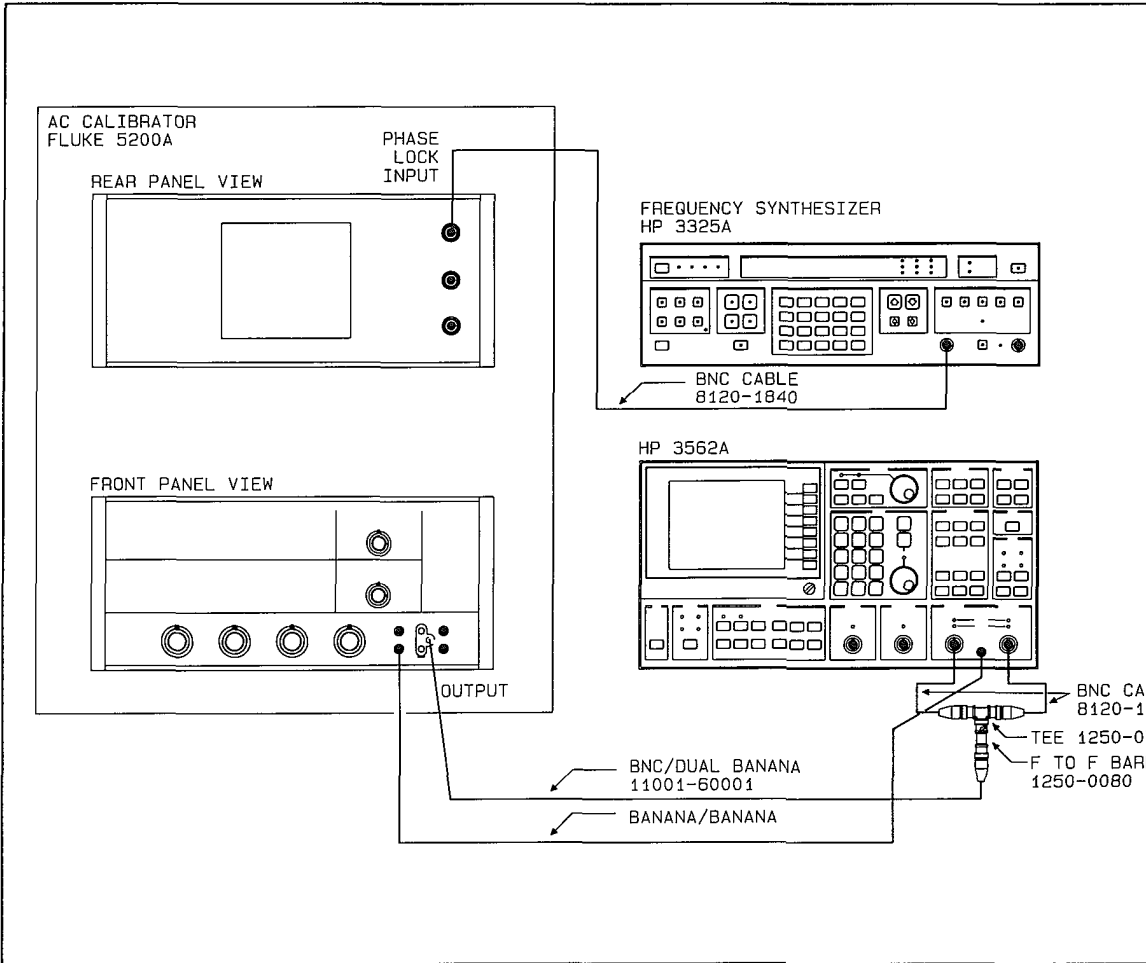

Figure 2-3(OV) Amplitude Accuracy and Flatness Test Setup
- A. Connect the test instruments as shown in figure 2-3 . Refer to "Initial Equipment Setup," section 2-6, for unspecified parameters.